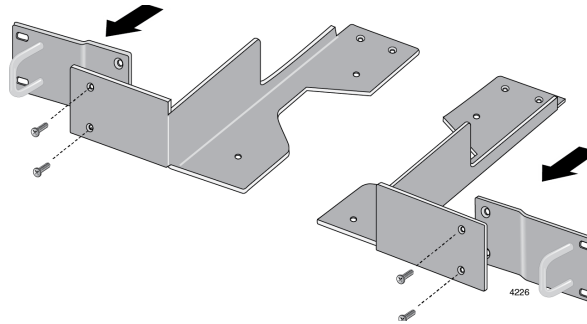

Figure 35. Attaching Brackets to Plates
3. Attach the short bracket and handle to the long bracket with M4x6mm screws using a Phillip-head screw driver as shown in Figure 35.